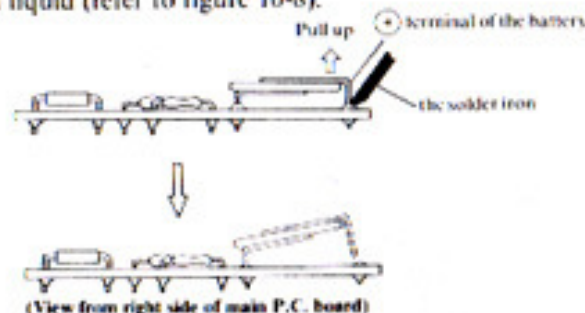

Figure 10-8
- (a). Dissolve the solder on the + terminal side of the battery sufficiently with a solder iron. And pull up the + terminal side of battery with your hand while the solder is in a liquid (refer to figure 10-8).